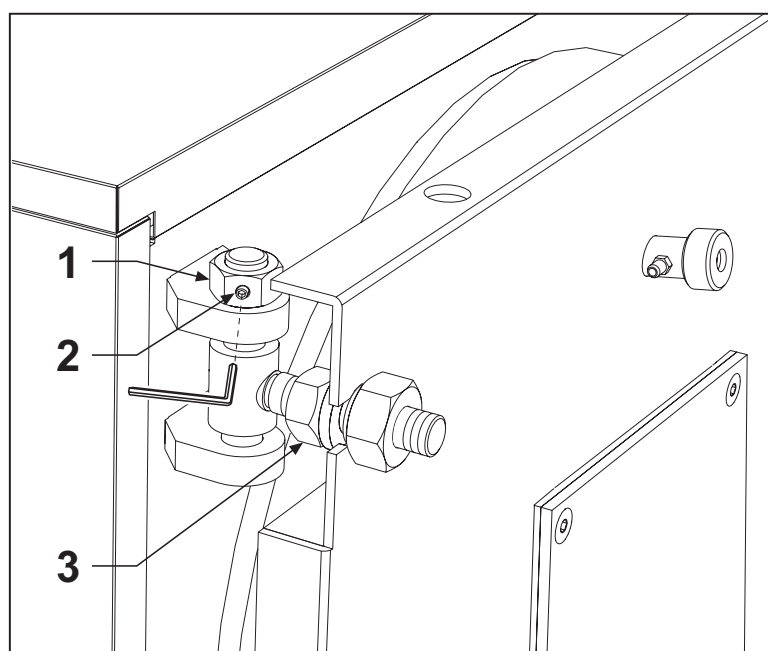

Fig. 12
- Door height adjustment is done with the nut (pos. 1); after adjusting, tighten the grub screws (pos. 2 - Fig. 12).
- Lengthwise adjustment is done with the screw pos. 3 - Fig. 12.